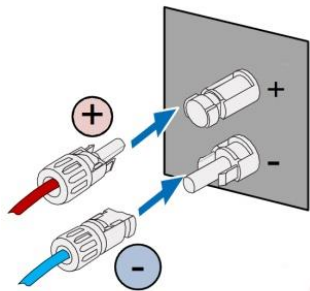

Fig 5.4 PV DC string connected to the inverter
- (1) Connect the positive and negative connectors of the PV strings that have been connected to the corresponding positions of the inverter DC interface, and confirm the tight connection, as shown in Fig 5.4;
- (2) When disassembling the DC connector from the inverter, insert the tip of a "one" screwdriver into the raised hole in the middle of the connector, and force the movable end of the connector to withdraw.